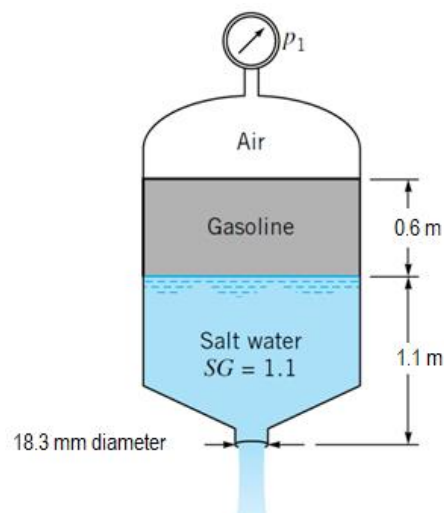

Figure 2
- 2- What pressure P_1 is needed to produce a flow rate of $0.00254 \text{ m}^3/\text{s}$ from the tank shown in figure 2, where S.G of Gasoline = 0.713 .